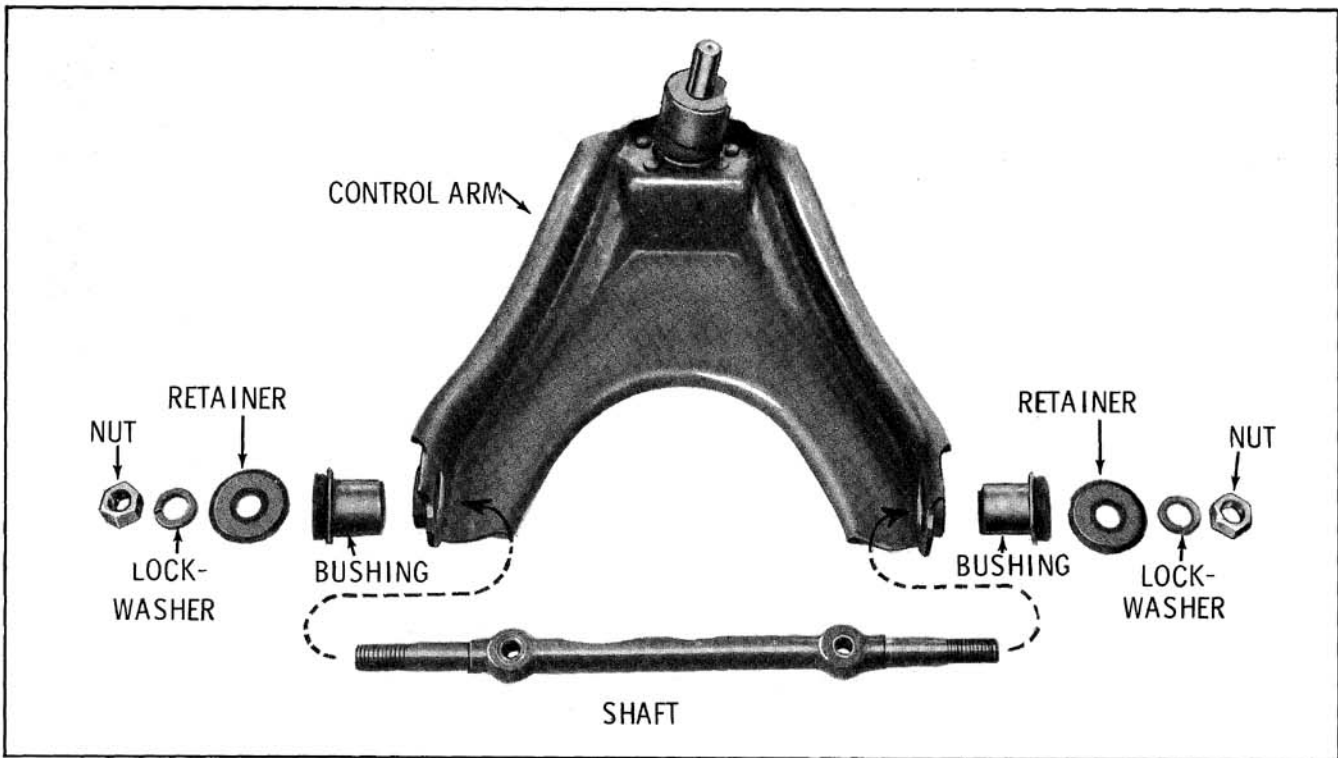

Fig. 9-15 Upper Control Arm Assembly
2. Remove nuts and washers from ends of pivot shaft. (Fig. 9-15)